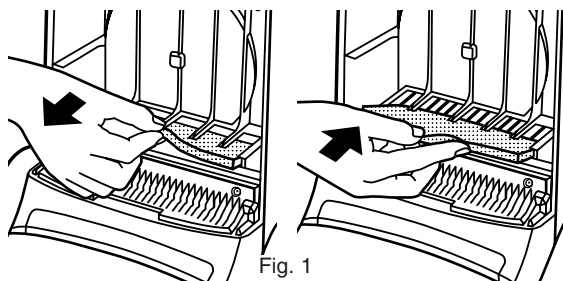
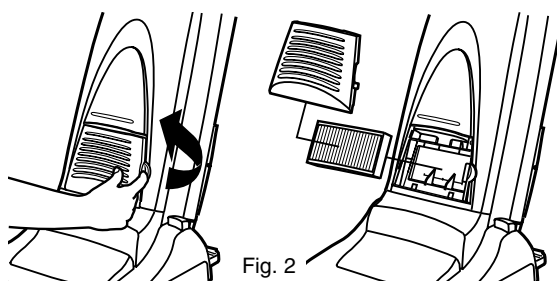

Fig. 1
Fig. 2
In addition to the dust bag, the vacuum cleaner contains two filters; a central filter that protects the motor (Fig.1) and an Advanced Micron Filter, "Clean air filter" that removes particles from the exhausted air (Fig. 2).
CENTRAL FILTER (Fig. 1)
ADVANCED MICRON FILTER (Fig. 2)
Remove the hose from the top suction inlet by pushing the two small clips in turning the hose to the right and pulling it out (Fig. 1). Clear any obstruction from the hose or top suction inlet using a blunt implement, taking care not to damage the hose.
If the obstruction occurs in the suction pipe inlet, it can be removed as shown in Fig. 2.
1. Remove the 5 screws from the base plate and lift it off. (Fig. 1)
2. Release the belt from the motor shaft and lift the beater bar assembly to remove the belt. (Fig. 2)
1. Loosen the 2 screws from the lens cover and remove it. (Fig.1)
2. Remove the old bulb by simply pulling it forward, and replace it with a new one. (Consult your local dealer /Service agent for a suitable bulb) (Fig. 2)